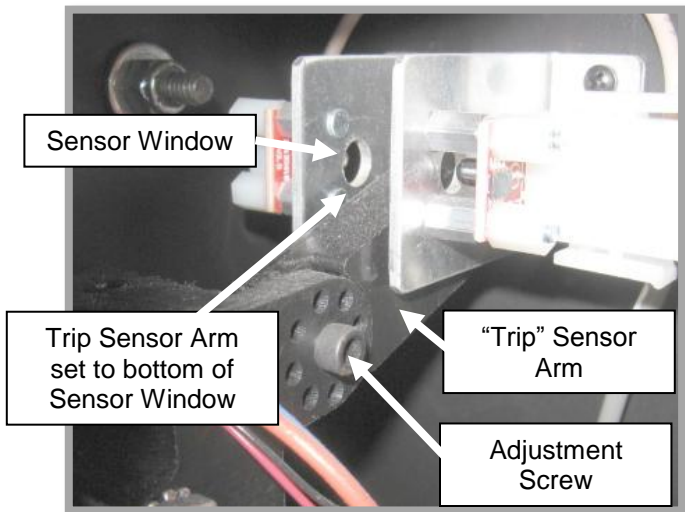

Fig. 20
2. Adjust the "Trip" Sensor Arm so that top edge of the Sensor Arm is at the same level with the lower the lower side of the Sensor Window opening (see fig. 20).